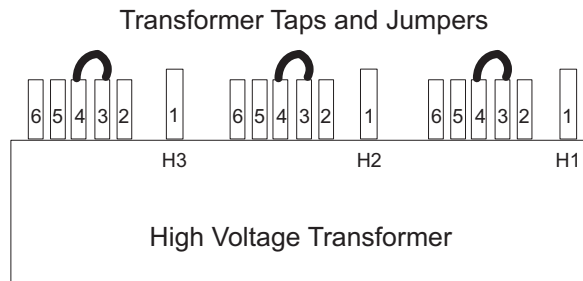

Figure 4-23 PDU Tap Positions (Rear)
- 2.) After you determine the nearest nominal line, verify the tap connections match (refer to Table 4-1 and Figure 4-23 for tap locations).